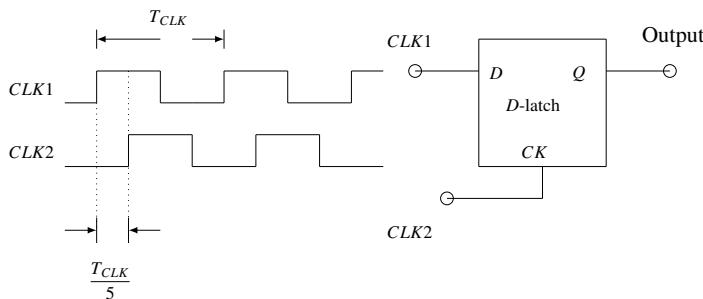

Fig. 5.16
16. Consider the  $D$ -Latch shown in Fig. 5.16, which is transparent when its clock input  $CK$  is high and has zero propagation delay. In the figure, the clock signal  $CLK1$  has